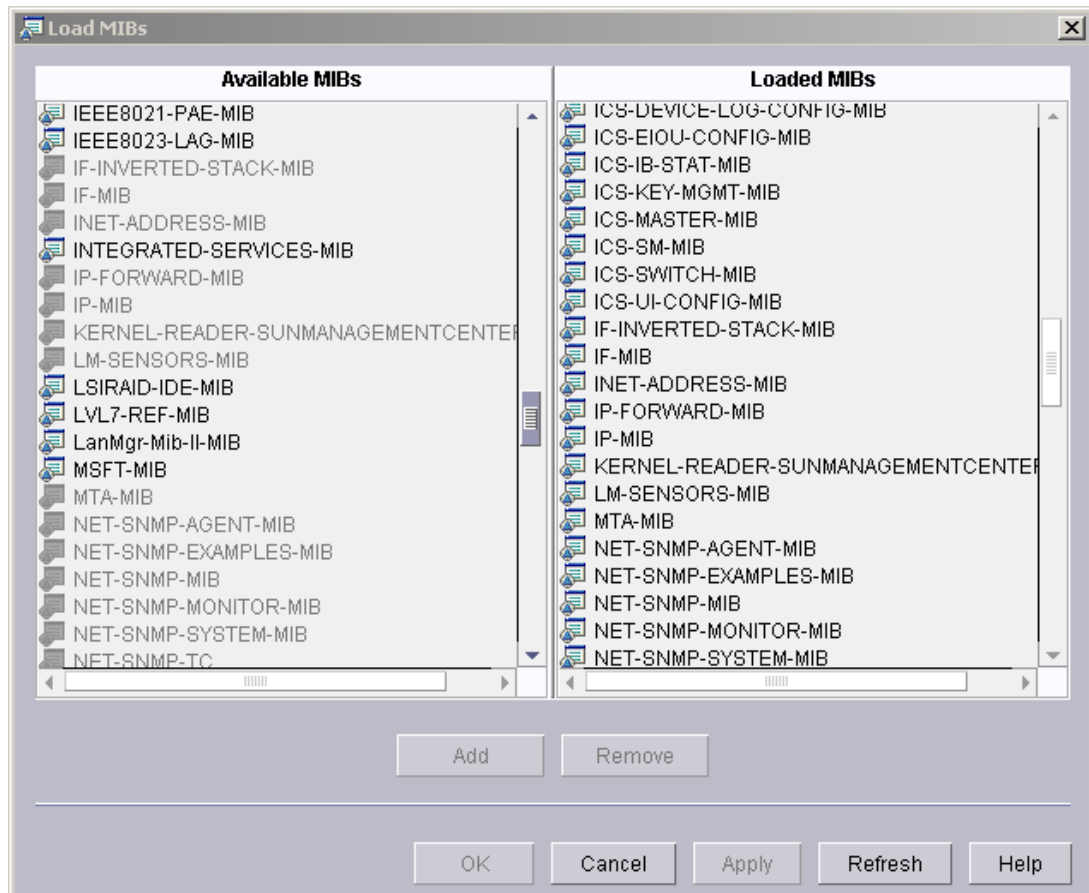

Figure 3-9 Selecting which MIBs to load into management server memory
3. In the Load MIBs window (Figure 3-9), select the MIBs you want to load from the Available MIBs column. Move them to the Loaded MIBs column by double-clicking individual items or by using Shift-click or Ctrl-click to select multiple items, then clicking **Add**.